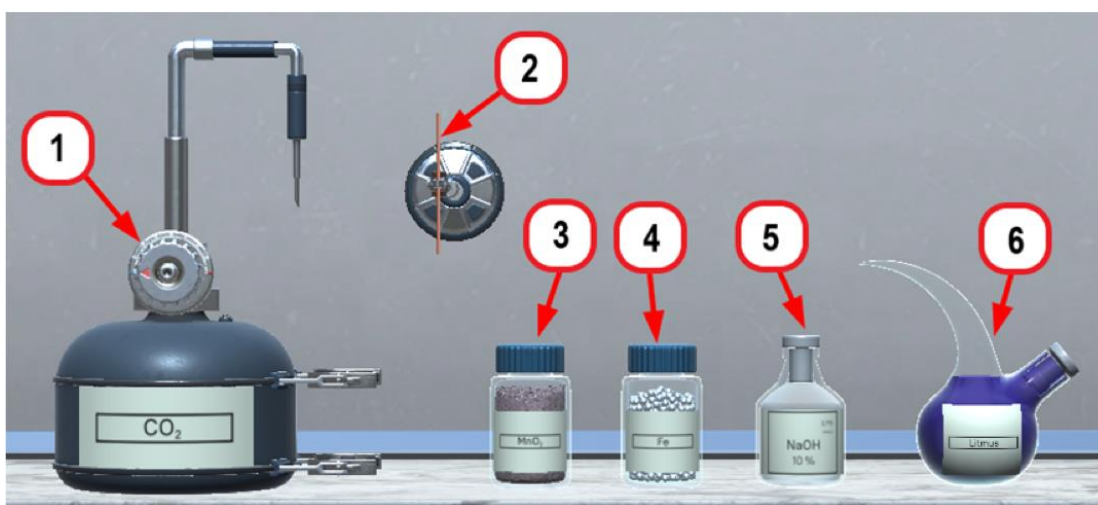

Figure 108 – Substances in different states on the workspace
Substances in the Virtual Laboratory are available in gaseous (1), solid (2, 3, 4), and liquid (5, 6) states (Figure 108).